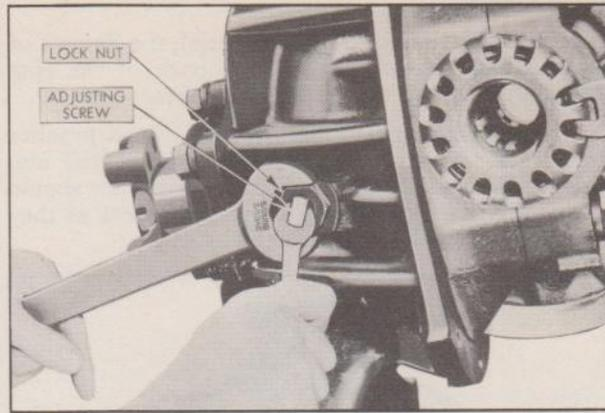

Fig. 30—Ring Gear Thrust Pad Adjustment
7. Install the thrust pad and tighten the screw until the bronze tip lightly engages the back of the ring gear while rotating gear. Back off the screw one-twelfth ($1/12$) of a turn and then tighten the lock nut, making sure the screw does not turn during the locking process. This will provide .005" to .007" clearance, Fig. 30.